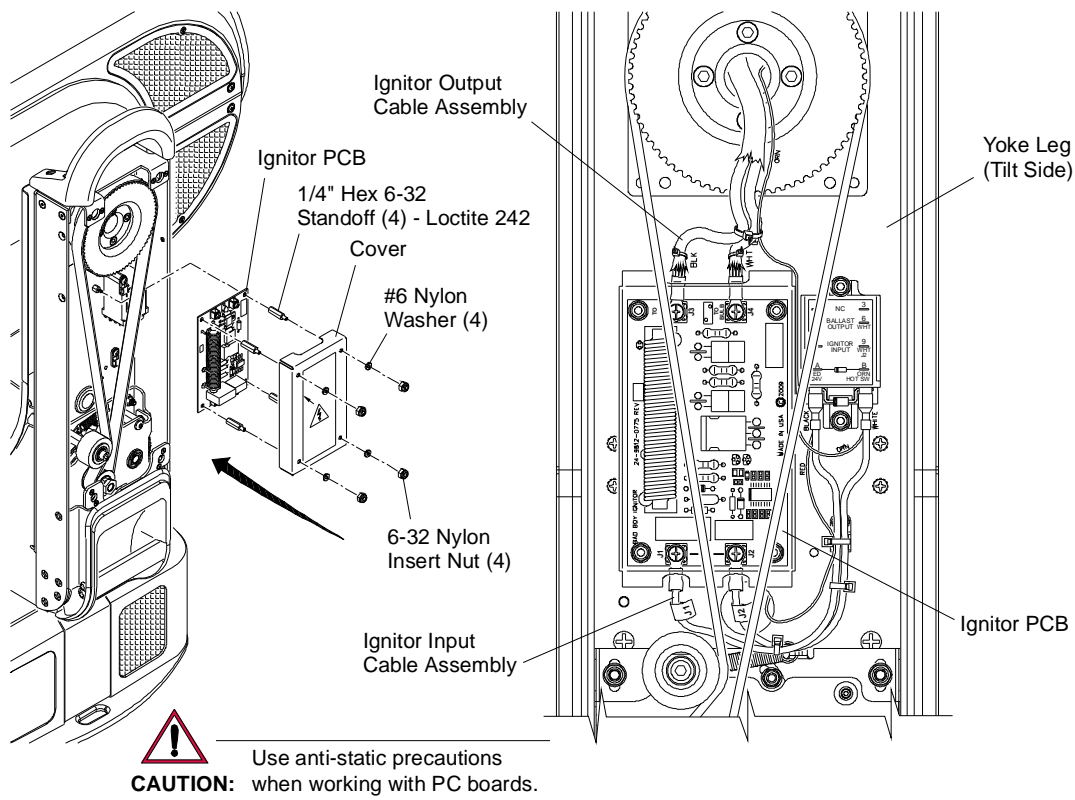

Figure 3-36: Removing Ignitor PCB
Step 6. Replace Ignitor PCB by doing steps in reverse. *Use Loctite 242 when re-installing standoffs as shown in Figure 3-36.*